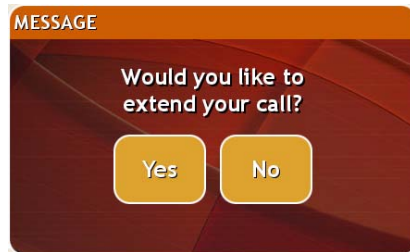

FIG. 92 Extend Call Popup
2. Press the up or down arrows to increment the timeout up by 1 second in each direction. If your call exceeds your session timeout the panel provides you with a popup (FIG. 92) to extend the session.